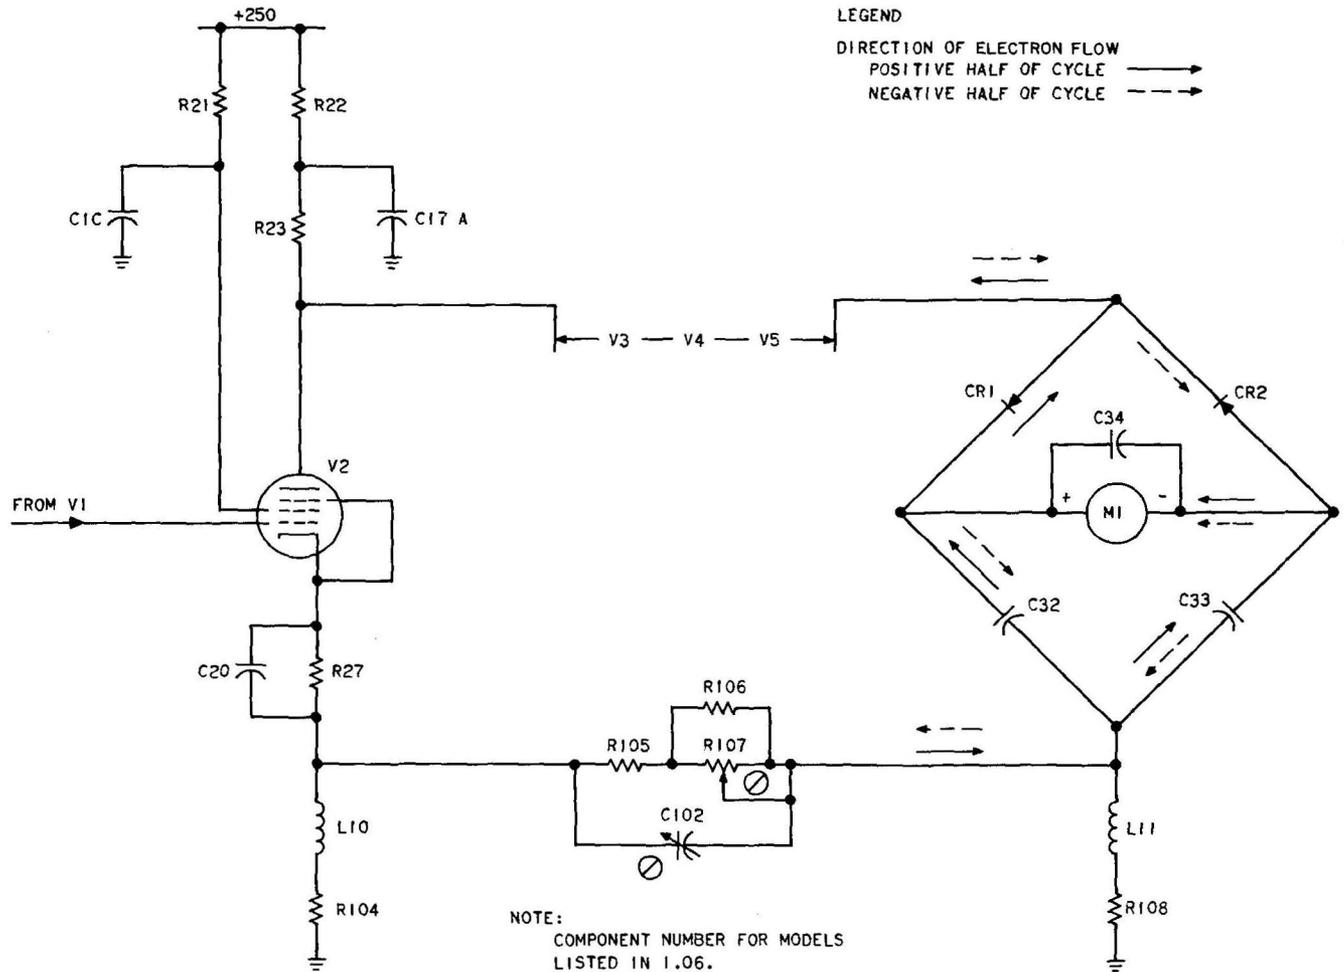

Fig. 10—Simplified Schematic of Meter Bridge Circuit
4.07 The meter rectifier circuit consists of two silicon diodes and two capacitors connected as a bridge with the indicating meter across the midpoints as shown in Fig. 10. The diodes provide full-wave rectification of the signal current for